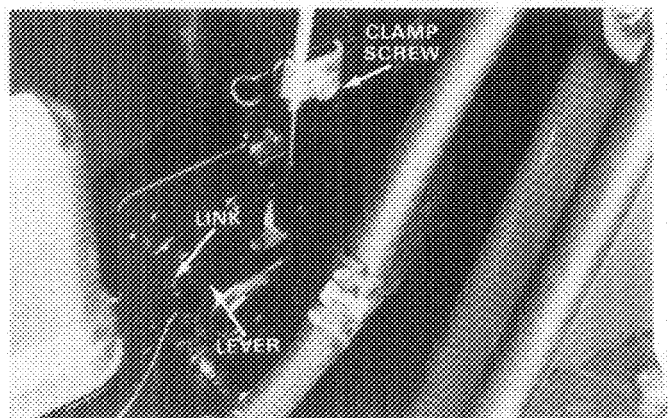

Figure 20
2. Move remote control lever to CHOKE position and check the position of the choke butterfly; it should be fully closed (Fig. 20).
3. Move remote control lever to FAST position. The butterfly should be in the fully open position (Fig. 20).
2. Loosen the throttle cable clamp screw (Fig. 20) and move the control cable casing and wire until the throttle lever touches link.